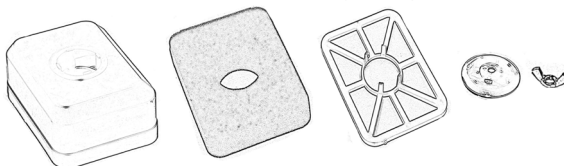

Figure 22
- Carefully wring out the filter and allow it to dry. Fig. 22.